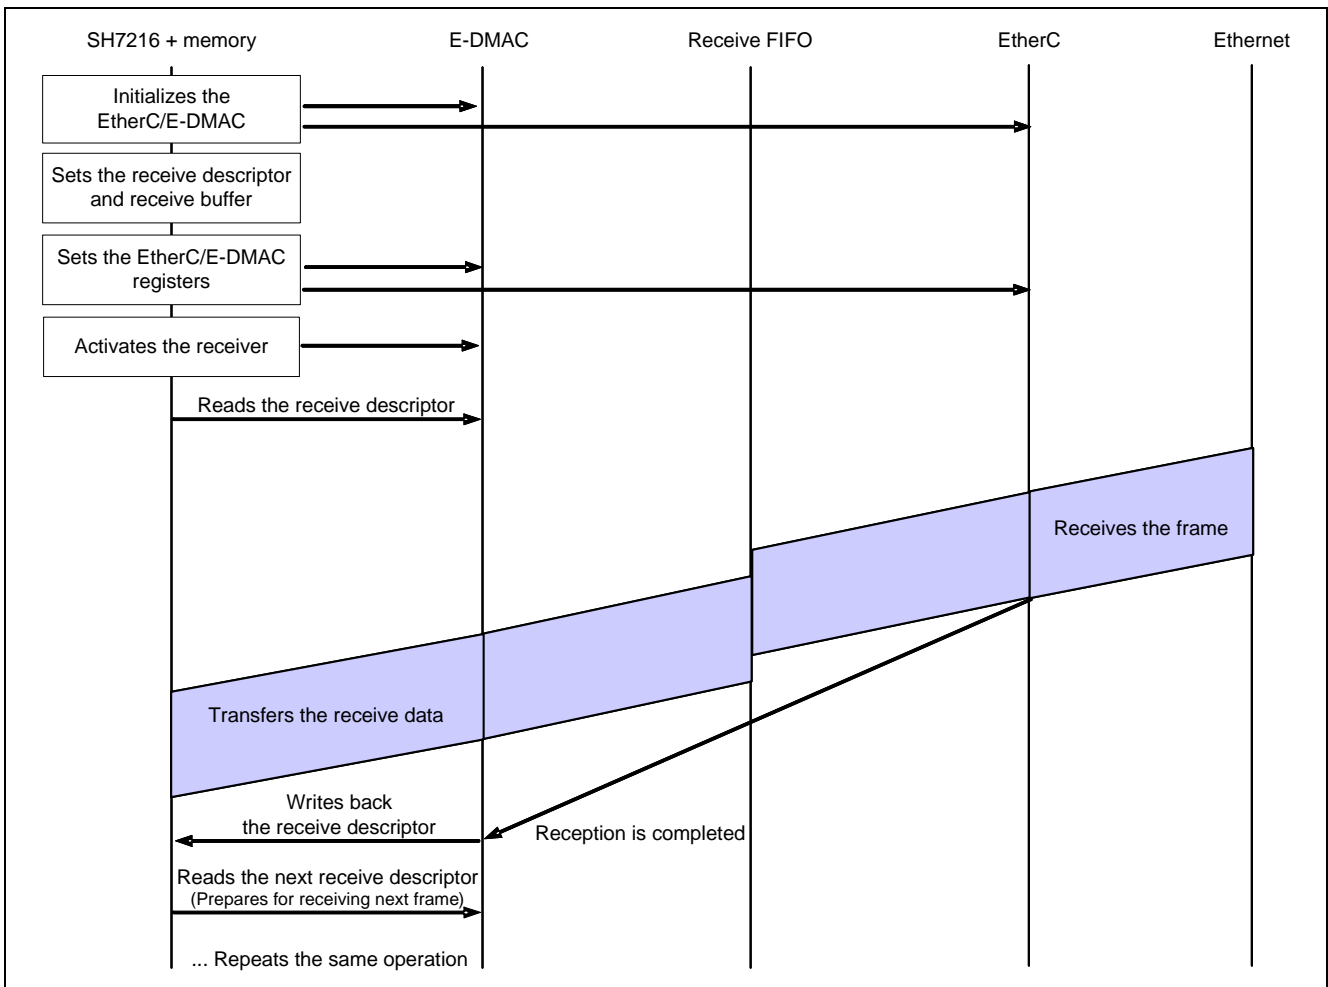

**Figure 5 Relationship between 3 Receive Descriptors and 3 Receive Buffers**
Figure 5 shows an example of setting to use three receive descriptors and three receive buffers. This example uses 1536 bytes in each receive buffer to set one frame per one descriptor. The following figure simplifies the receive descriptors as only RD0. Numbers shown in the figure indicates sequence to execute.
3. Before starting to receive data, set 1536 bytes (receive buffer size) in the RBL in RD1 in all descriptors, and specify the RBA bit in RD2 as the starting address in the corresponding receive buffer. (This step is not described in Figure 5.)